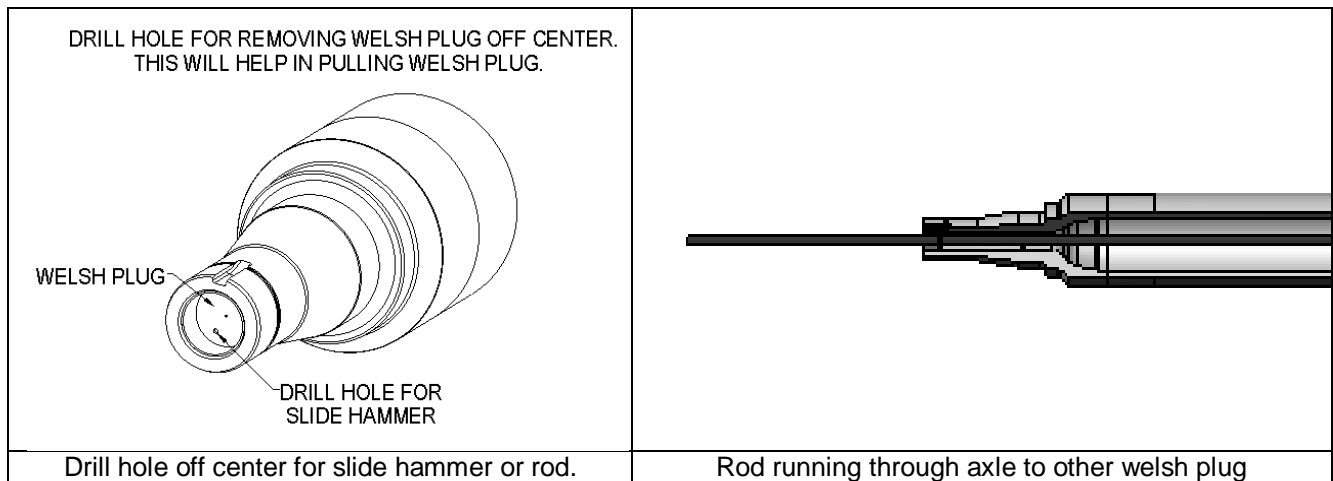

Figure 2
- Insert a long steel rod into the 1/2" hole until it hits the back side of the welsh plug in the opposite spindle. Steel rod must be longer than the length of the axle. Use a hammer to hit the rod and knock the welsh plug out. Pull rod out and repeat procedure on the plug with hole with the 1/2" hole in it. Repeat procedure for second axle. See Figure 2